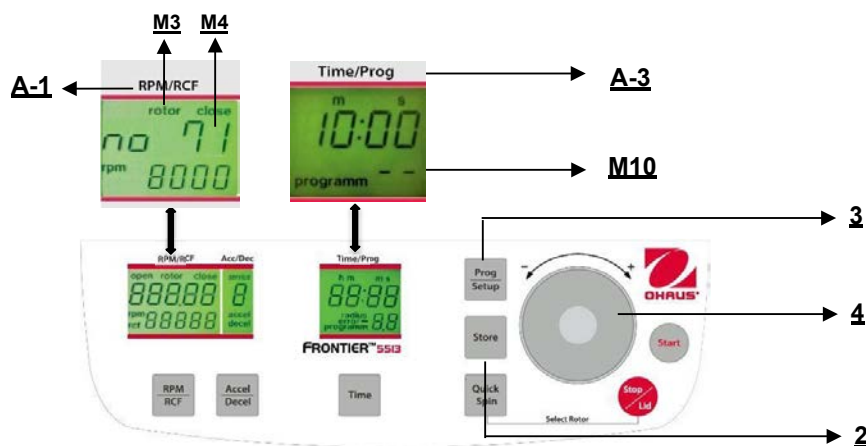

Figure. 22
To recall stored programs, press the key **"Prog/Setup"** (3) (refer to figure 22) while the lid is already closed. Inside the display **"Time/Prog"** (A-4), **"programm –"** (M10) appears. The desired program number can be pre-selected with the adjusting dial (4).
To leave the program mode just press the key **"Prog/Setup"** (3) (refer to figure 22). Then inside the display **"Time/Prog"** (A-3) the word **"programm"** (M10) appears.